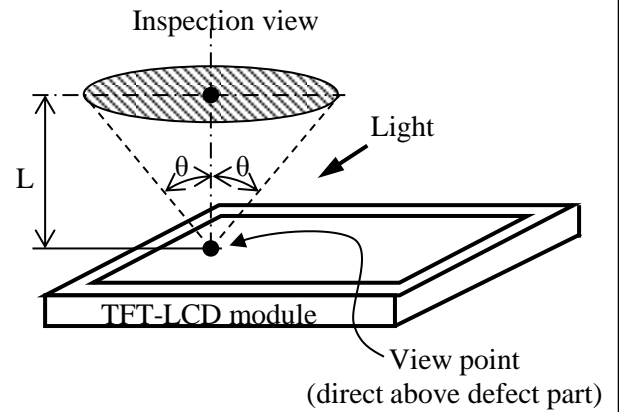

Fig.8.1 Inspection view
(1) Viewing zone
- a) The Fig.8.1 shows the viewing angle and distance from human eyes (of inspector) to a surface of the LCD cell.